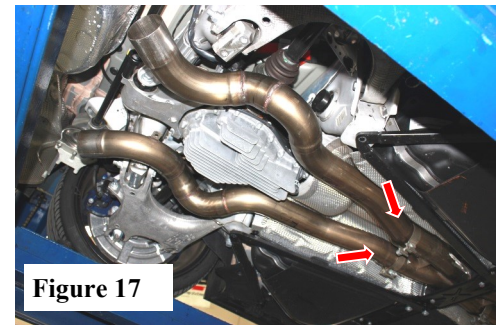

Figure 17
6. Place a clamp on front of L/H Intermediate Pipe Assembly and insert pipe into X-Pipe Assembly. Repeat for R/H Intermediate Pipe. (See Fig. 17)